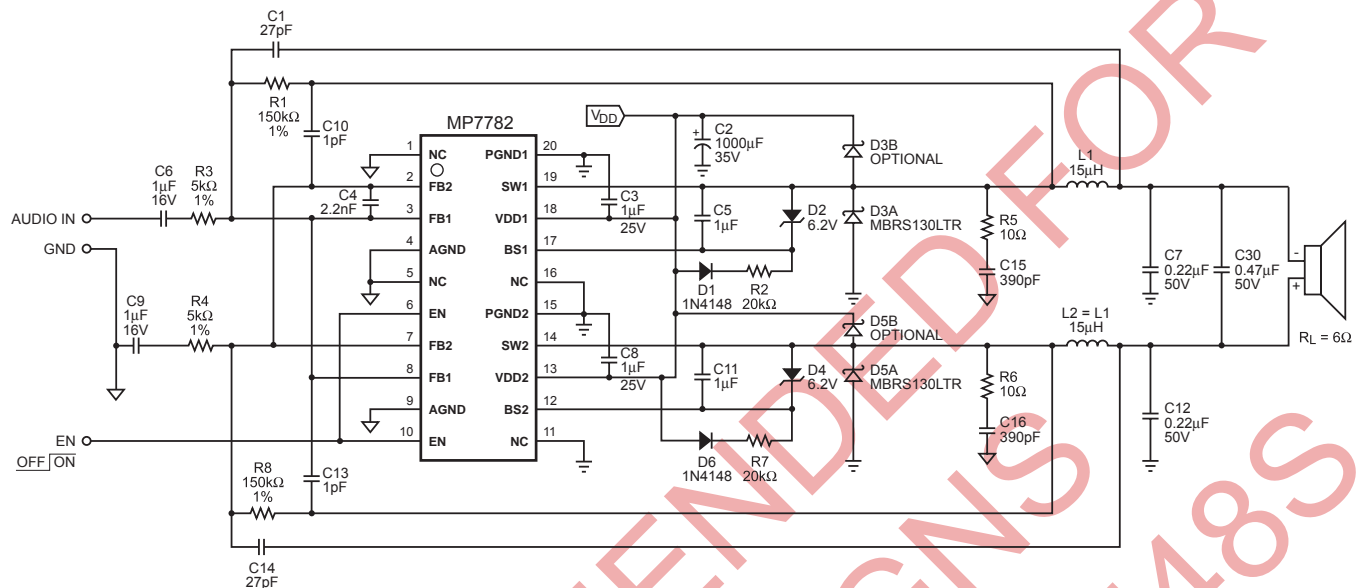

Figure 1 — 50W Class D BTL Amplifier ( $V_{DD} = 24V$ )
(Circuit of Figure 1,  $V_{DD} = 24V$ ,  $V_{EN} = 5V$ ,  $T_A = +25^{\circ}C$ , unless otherwise noted.)
Circuit of Figure 1,  $V_{DD} = 24V$ ,  $T_A = +25^\circ C$
The MP7782 uses a minimum number of external components to complete a fully bridged Class D audio amplifier. The circuit in Figure 1 shows a typical application. Use the following sections to customize the amplifier for your particular application.
Two identical LC filters are required in the typical application. The inductor-capacitor (LC) filter is a second order filter that converts the pulse train at SW (pins 14, 19) to the output differential signal that drives the speaker. Typical values for the LC filters are shown in Figure 1. The characteristic frequency of the LC filter needs to be high enough to allow high frequency audio to reach the output, yet needs to be low enough to filter out high frequency contents of the pulses from SW. The characteristic frequency of the LC filter is: